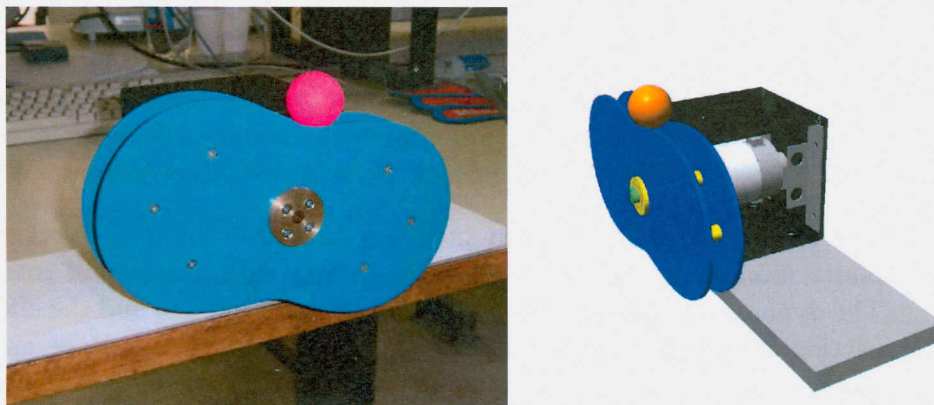

Figure 2: The photo and the schematic side view of the Butterfly robot
4. **Problem:** Consider the planar robot (the so-called butterfly robot built at Università di Roma 'La Sapienza' by Prof. Giuseppe Oriolo) for which photo and schematic views are depicted in Figs. 2 and 3.
- two identical symmetric wooden plates (*blue* in Figs. 2 and 3), which are fixed in parallel to shape one rigid body and which can be rotated by a DC-motor about the center point (*yellow* in Fig. 3);
- one ball (*red* in Figs. 2 and 3), which can freely roll following the contour of the plates. Its geometry is parameterized by the given smooth function  $\delta(\phi)$  representing the distance between the center of mass of the ball and the axis of rotation of the plates, see Fig. 3.
The robot is manufactured in such way that the center of mass of the plates (*blue* parts in Figs. 2 and 3) coincides with the axis of rotation. The dynamics of the electrical components is fast enough and the effect of friction is pre-compensated so that the control signal (a voltage applied to the DC-motor) is equal to an external torque applied to the axis of rotation of the plates.